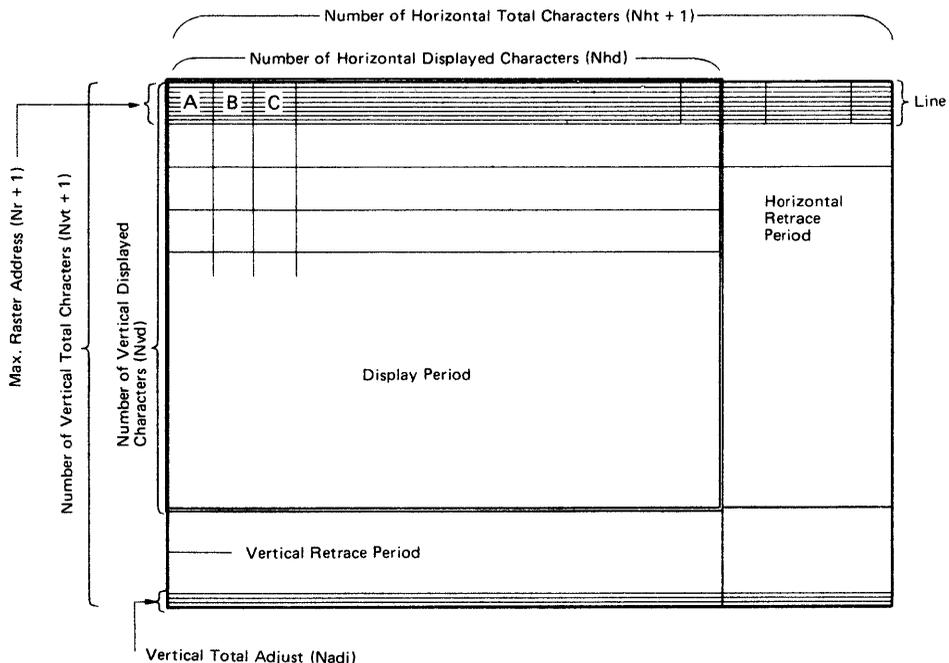
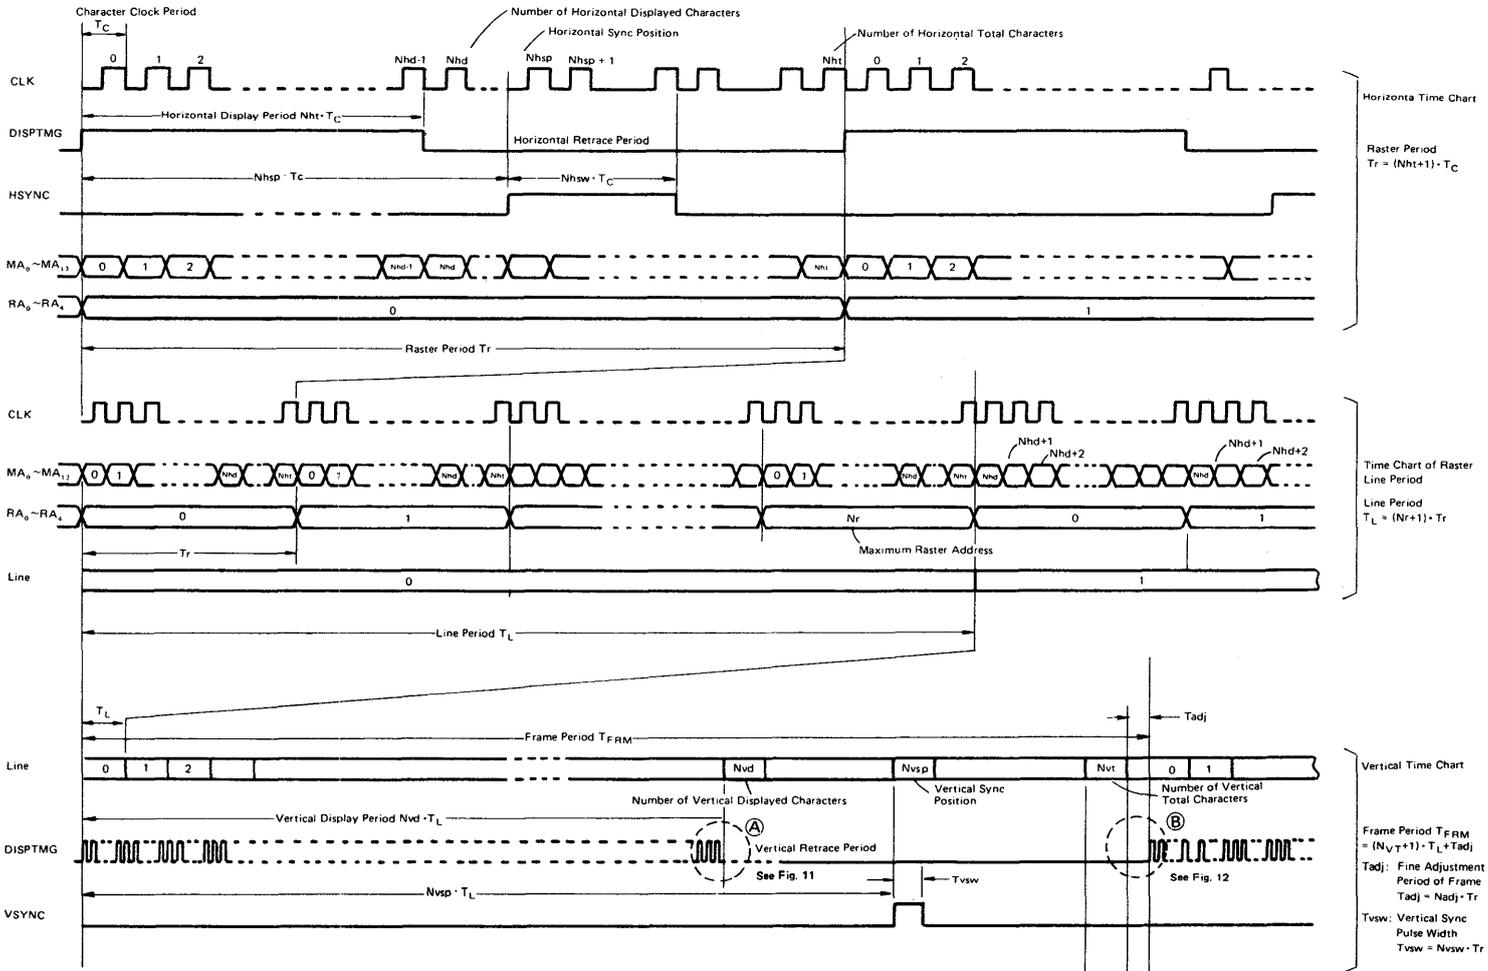

Figure 7 CRT screen Format
Figure 10 CRTC Time Chart
The following example shows the display operation in which values of Table 8 are programmed to the CRTC internal registers. Fig. 7 shows the CRT screen format. Fig. 10 shows the time chart of signals output from the CRTC.
(Expansion of Fig. 10- (B))